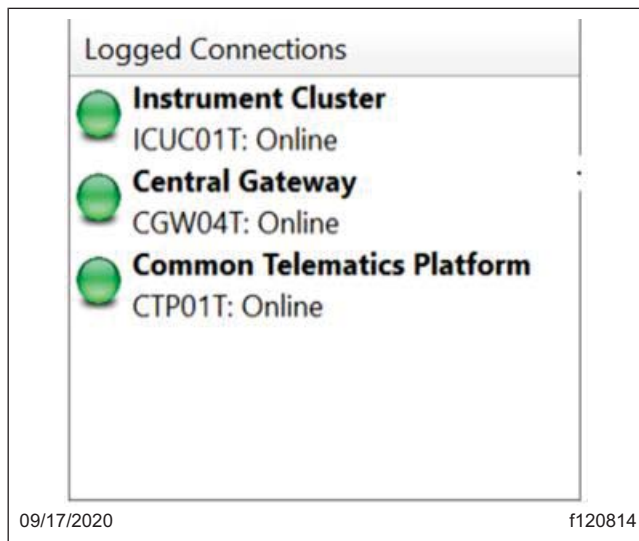

Fig. 1, DiagnosticLink Connections Panel
7. Wait until all three controllers are fully connected and the connection indicators turn green. See Fig. 1.